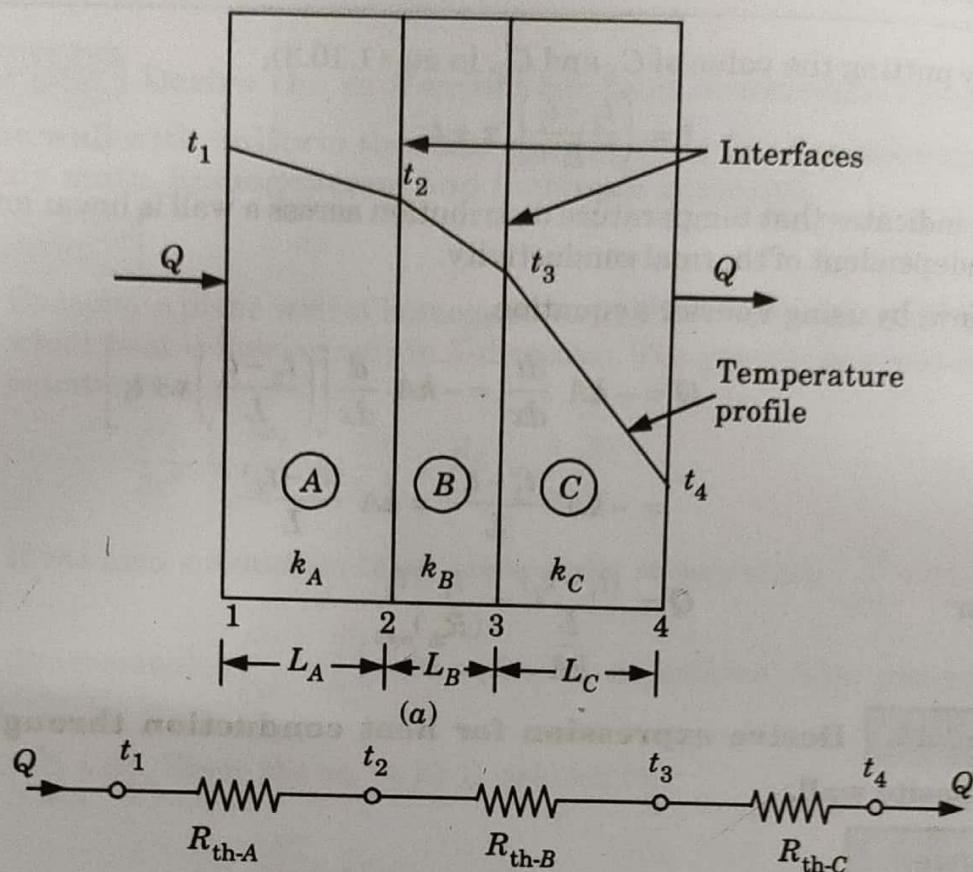

Fig. 1.11.1. Steady state conduction through a composite wall.
- Consider the transmission of heat through a composite wall consisting of a number of slabs as shown in Fig. 1.11.1.